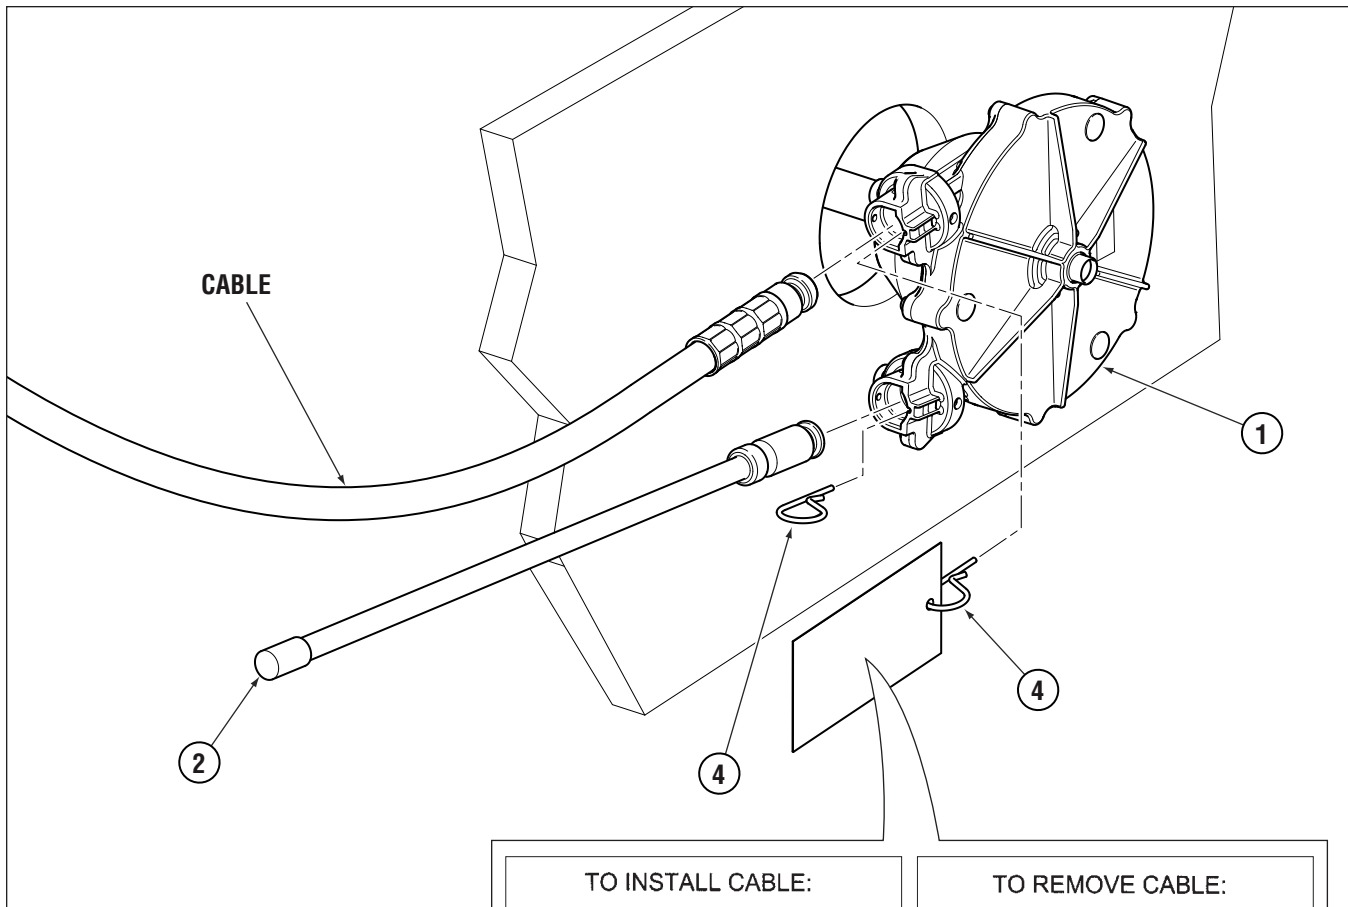

Figure 2.
STEP 5. Feed spent travel tube (item 2, Figure 2) over the exposed cable end until you hear it click into place in the helm spigot. Then insert pin as shown in Figure 2 until it is fully seated.